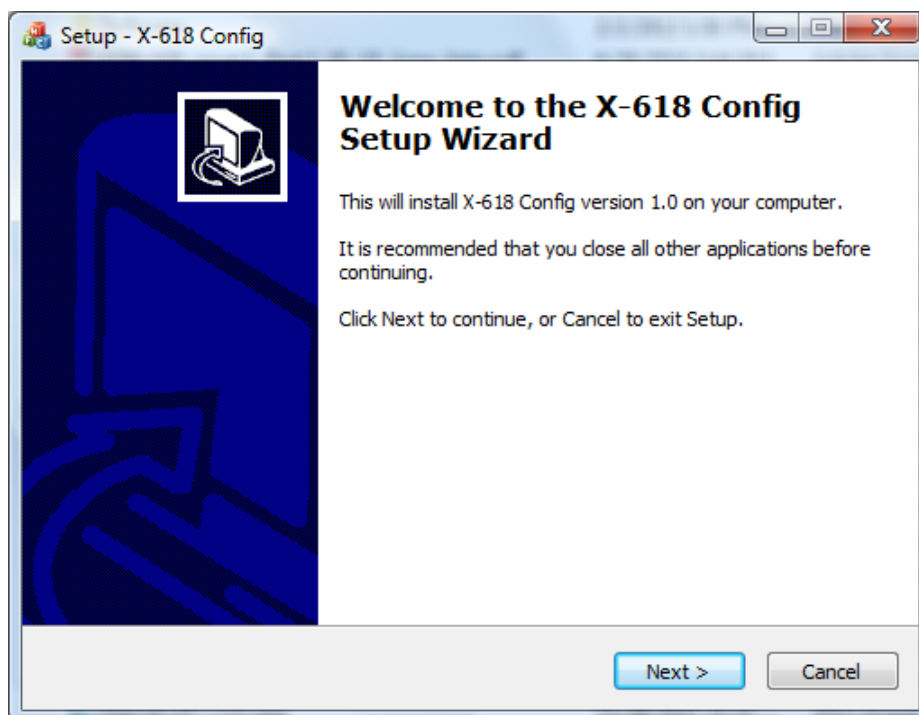

Figure 1 X-618 Config Installation Wizard Page
1. Put the X-618 system CD into the CD-ROM drive, click X-618 System Commissioning Tool in the Autorun view or double-click the installation program X-618 Config.exe, and the X-618 Config installation wizard window displays as shown in Figure 1.